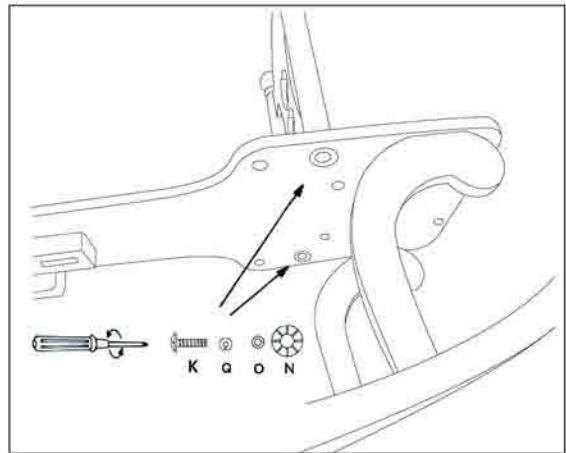

Fig. 7 Attach Arm Rests (D) to Chair Back (E)
-Insert Arm Rests (D) vertically into the pre-drilled holes on Seat (B).
-Align Arm Rests (D) to the pre-drilled holes on the chair back post (see Fig 7)
-Put Small washer (P), Spring washer (Q), and Large machine screw (J) in sequence in the pre-drilled holes and screw them in until secure.